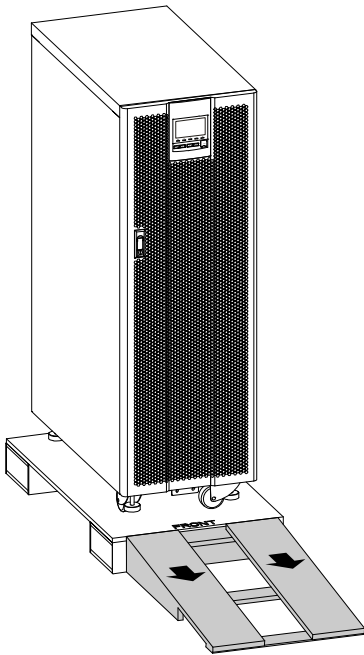

Figure3-7 Place the sliding plate
- Step 7 Put the tilting plate to the front of the UPS, and keep the higher end of the sliding plate close to the wooden bracket, and move the UPS to ground slowly, as shown in Figure3-7.